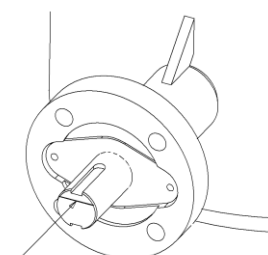

Fig. 9: Marking groove
- Use the turn gear wheel to turn valve in closed position, so that the disk is parallel to the seal. Right position check by measuring the distance X from flange of valve to the disk surface. (Figure. 8). The distance must be equal on both sides of the disk. The approximate position of the disk can be defined by marking groove on the end of shaft. (Figure. 9). The disk is parallel to the marking groove.